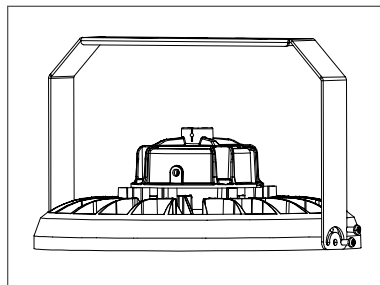

FIGURE 1
- A) Insert screws through the bracket and tighten. (FIGURE 1)